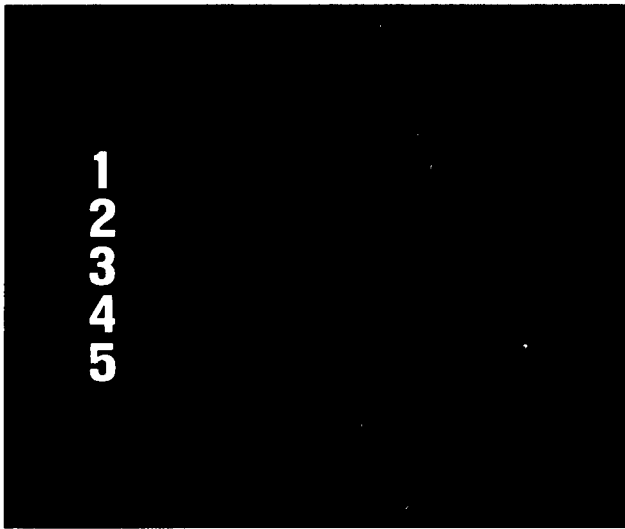

Figure 3-2 Self-Test — ROM/RAM
3. The Third Test Display looks like the following Figure 3-2.